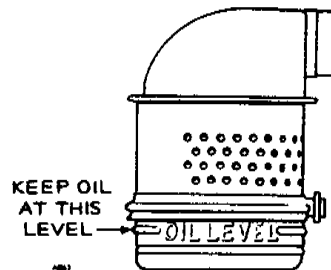

FIGURE 20. OIL BATH AIR CLEANER
1. Loosen bottom clamp, remove cleaner base and clean, Figure 20.